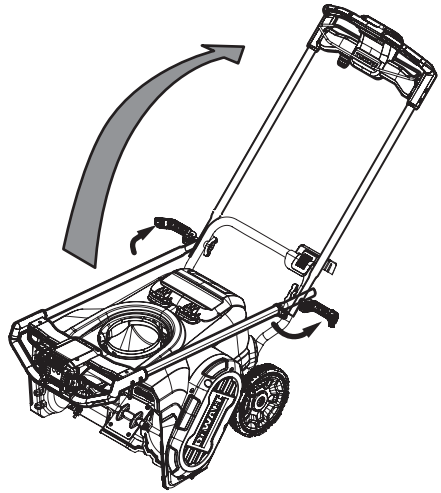

Figure 4
4. Flip the two handle levers down to the Unlocked position (Figure 4).
5. Pivot the upper handle into the operating position. Be sure not to pinch any of the cables in the process (Figure 4).